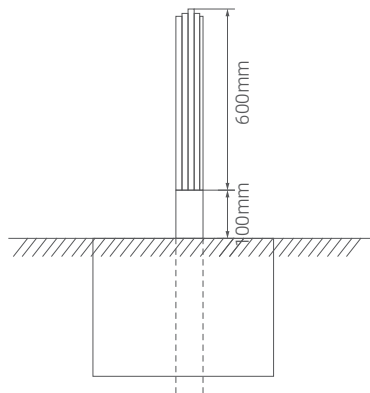

Figure 5-5 Concentrate Foundation Overview
- After it is set, mark and drill four holes (70mm deep) as shown in Figure 5-5 Pedestal base dimension (use that drilling pattern).